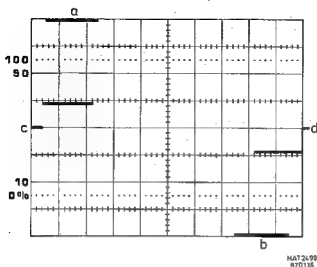

Figure 9.2 Service menu DISPLAY 5.
- Adjust the Yx1 gain R2513 on unit A1 so that the vertical distance between the two horizontal lines is 8 div (max. deviation + or - 0,6 div) such as given in figure 9.2 (lines a and b).
- Adjust the horizontal gain R2566 on unit A1 so that the distance between the starting point of the small horizontal lines c and d in figure 9.2 is 10 div (+ or - 0.1 div). The starting points of the lines c and d must be such as given in figure 9.2.